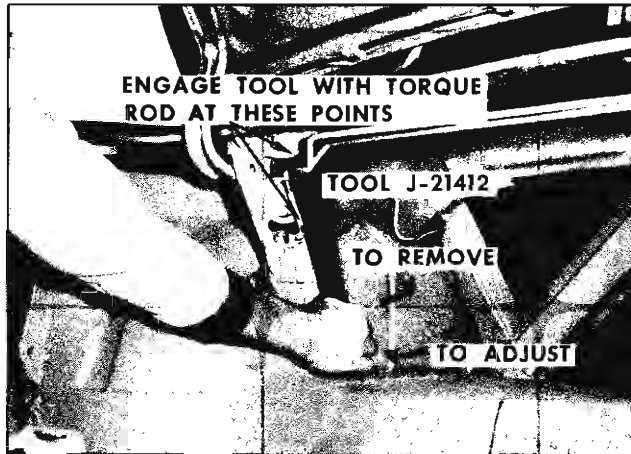

Fig. 14-10 Lid Torque Rod Adjustment
greatest. Figure 14-10 illustrates how to use tool J-21412 to perform these adjustments.
2. Engage torque rod adjusting tool J-21412 with torque rod to be removed as shown in Fig. 14-10.